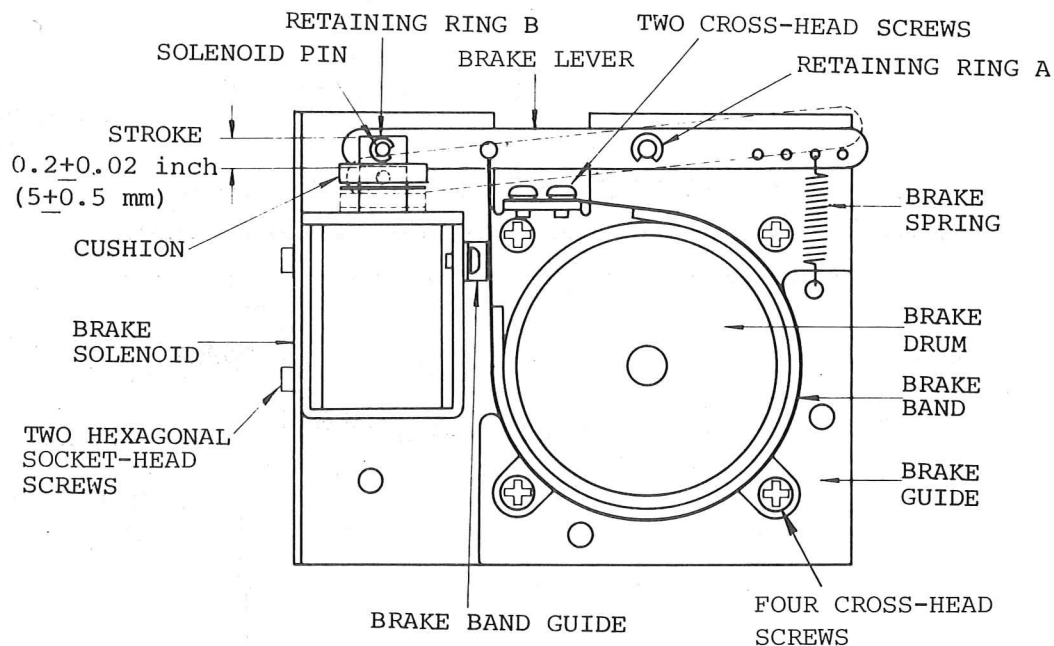

Fig. 5-2 Brake Assembly
The reel table may be removed by removing the three cross-head screws accessible from the front of the transport. To adjust the reel table height, loosen the two hexagonal socket-head screws shown in Fig. 5-2, adjust the height and retighten the screws.
4. Remove the brake assembly by removing the four brake assembly mounting screws on the bottom of the reel motor as shown in Fig. 5-2.
When a new brake band or new brake solenoid is installed (Fig. 5-2), it is necessary to position the brake guide and/or brake solenoid to ensure that is uniform brake band clearance around the brake drum when the solenoid is energized.